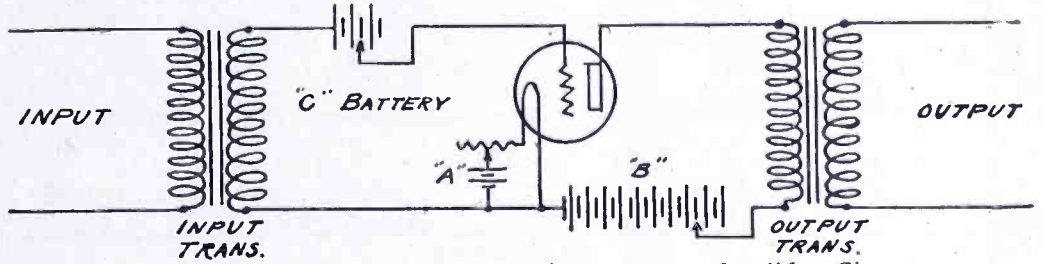
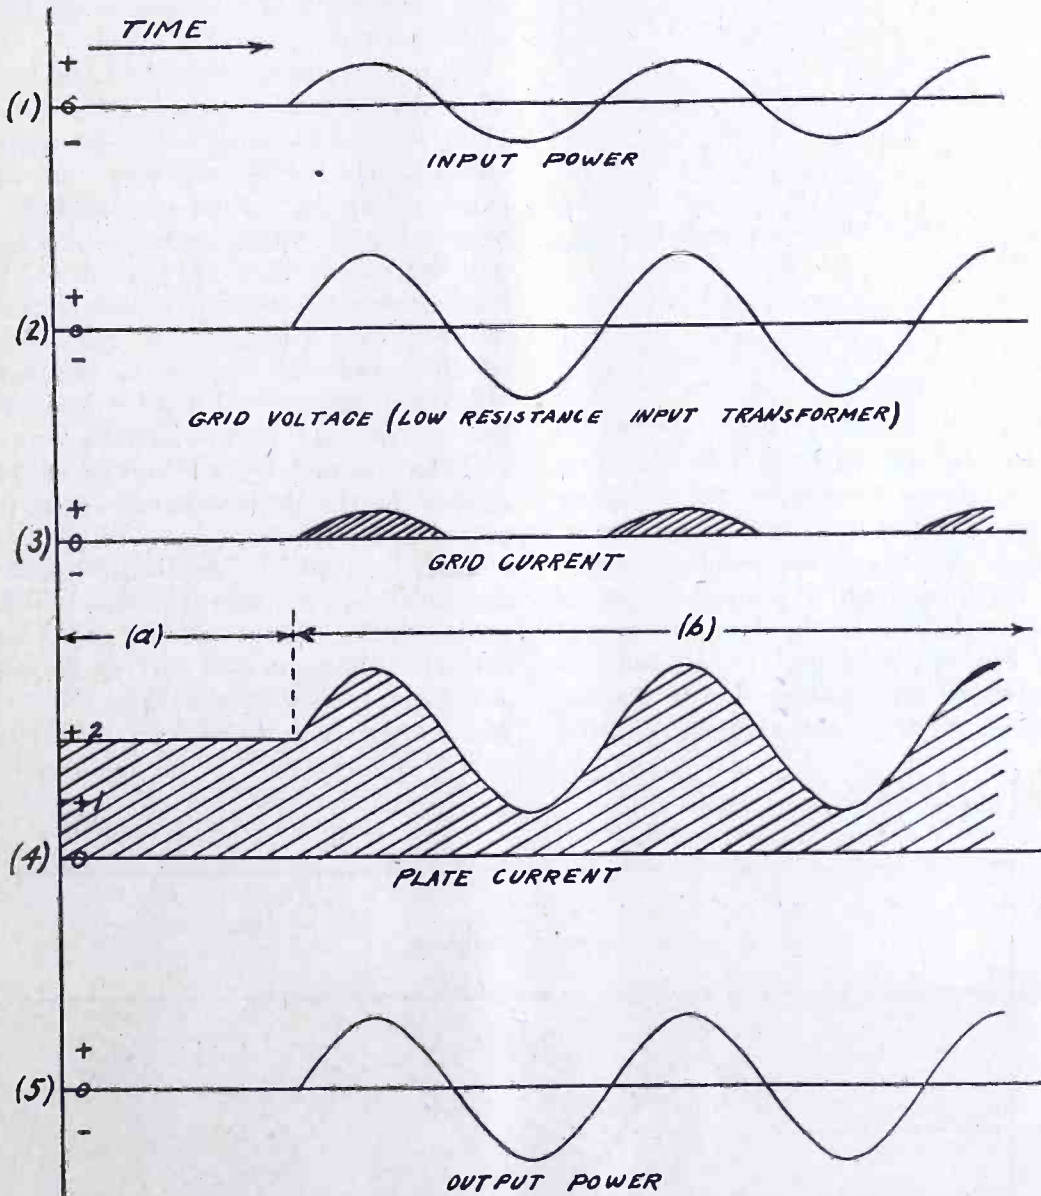
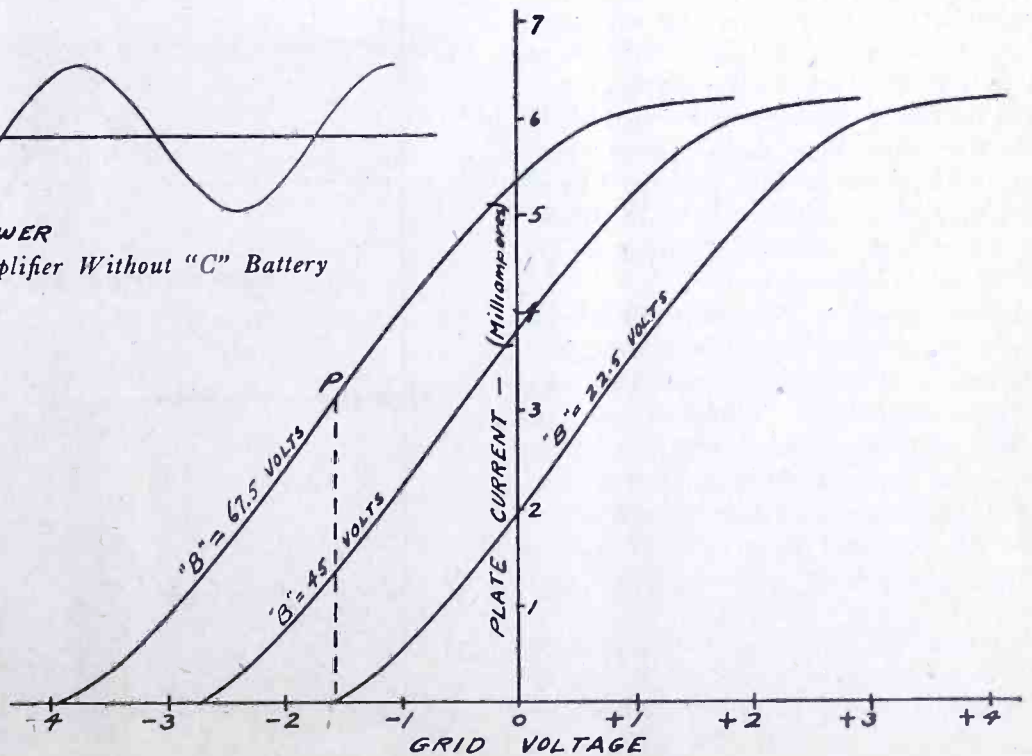

Fig. 1. Transformer Coupled Audio-Frequency Amplifier Circuit
Fig. 3. Output of Transformer Coupled Amplifier Without "C" Battery
Fig. 2. Characteristic Curves for Tube Shown in Circuit of Fig. 1
For the purpose of discussion, let us consider the audio-frequency amplifier circuit given in Fig. 1. Let us assume that the static characteristic curves of this tube are given by Fig. 2. If we assume no C battery, and a B battery voltage of 45 volts, the plate current as a function of time would be represented by a of Curve (4) Fig. 3.
will give rise to a grid voltage as shown by Curve (2) Fig. 3. (There is, however, no greater power in the secondary circuit of the transformer than there was in the primary. The transformer has merely taken power at relatively low voltage and high current and converted it to power at high voltage and low current. This is accomplished by putting more turns on the secondary than on the primary. As the grid circuit requires but little current, and as the response of the plate current depends upon the grid voltage, it is desirable to deliver power to the grid at relatively high voltage and low current.) This will give rise to variations in the plate current as shown by b of curve (4). The output transformer serves to eliminate the direct current component and delivers power (Curve 5, Fig. 3) either to the next stage or to the power utilizing device such as a loud speaker. The amount of power represented by curve (5) is greater than that represented by the input curve (1). This additional power is obtained from the B battery.
the filament half of the time. During the positive half cycle of voltage some electrons will be attracted to the grid and a grid current will flow as shown by curve (3) Fig. 3. This, however, will do no harm *provided* the resistances of the input transformer are small and the amplitude of the voltage applied to the grid is small.
Let us assume the same values of plate voltage as previously (45 volts), no *C* battery, but assume that the input power (Fig. 1) is greater than that assumed in Fig. 3, and the resistance of the trans-
Distortion can be eliminated and more power handled by the amplifier if a high plate voltage is used with the proper value of grid voltage obtained from a *C* battery. If 67.5 volts are applied to plate (Fig. 1) the characteristic curve will be given by (C) Fig. 2. This would normally result in a plate current of about 6 milliamperes in place of 4 which flowed with 45 volts on the plate. With a *C* battery of 1.5 volts, however, the current can be brought back to 4 milliamperes and any alternating voltage applied to the grid will act about the dotted line to *P*.
Assuming the plate battery of an amplifier is of sufficiently high voltage to require the use of *C* battery, the correct value of voltage to be used in the grid circuit can be determined if a plate milliammeter is available. Insert the milliammeter in the plate circuit and note the reading. Now tune in a strong signal. If loud speech or music causes the plate milliammeter reading to decrease, the voltage of the *C* battery is too low. Distortion in this case may be due to hitting the top of the curve or it may be due to the unbalanced effect of grid current as shown in Fig. 3. If loud signals cause the plate meter reading to increase, the *C* battery voltage is too great and distortion